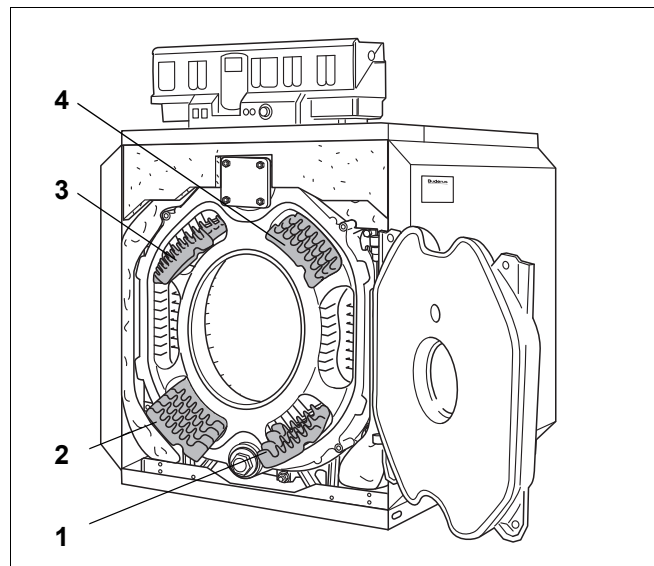

Fig. 55 Remove the hot gas baffles
- Pivot the thermal insulation on the rear section and draw together below the flue gas coupling using a spring hook (Fig. 55, [1]).